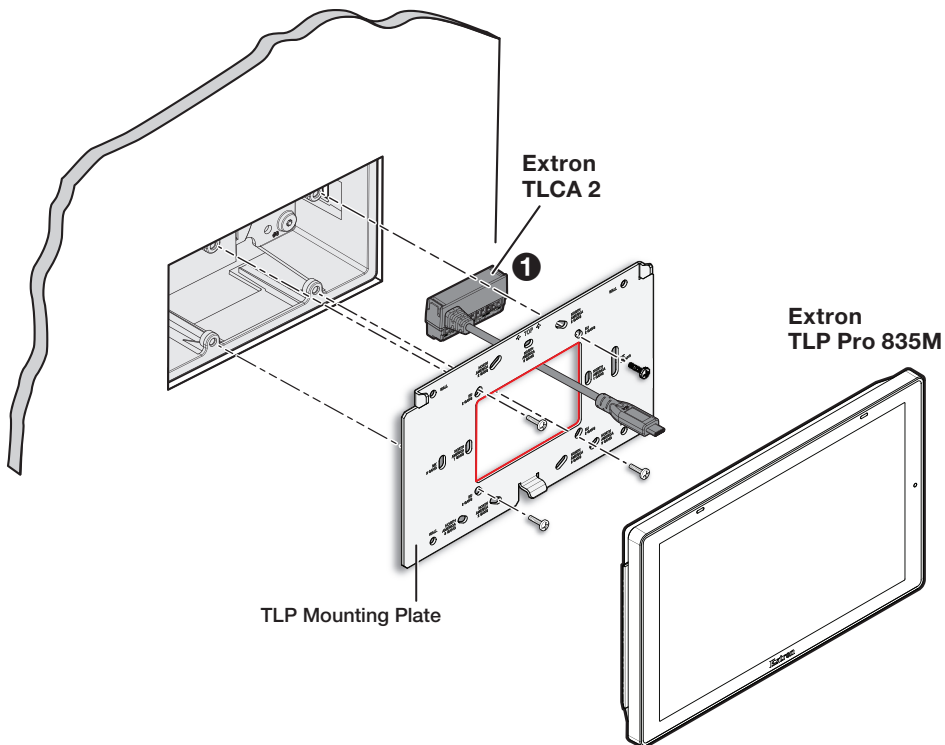

Figure 13. Mounting TLCA 2 within drywall or junction box
Route the TLCA 2 thru the mounting plate opening (see figure 13, ❶) and into the drywall or junction box (if applicable). This also applies to the RM (rack mount).